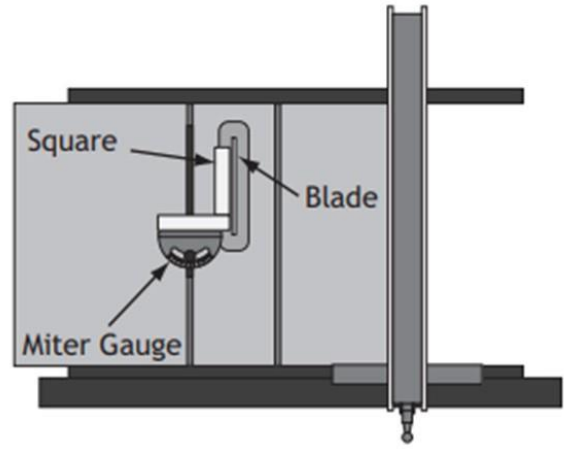

Figure 65: Miter body adjustment.
- 4 - Place the square against the miter gauge as shown in figure 65.